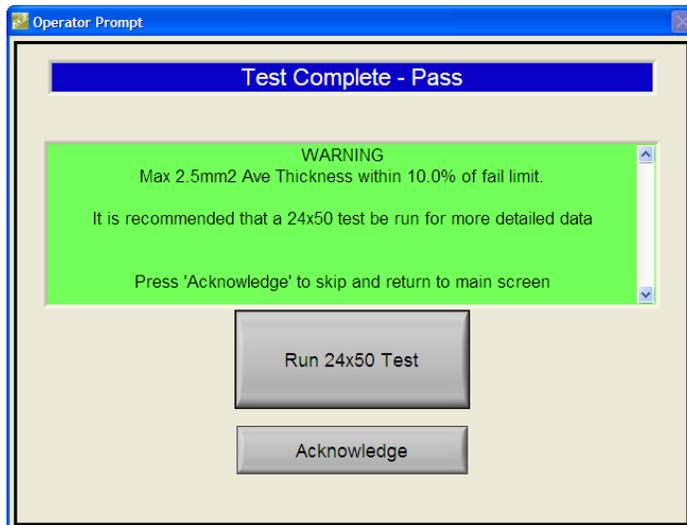

Figure 32 – 24x25 Warning Popup Display
- 24x25 quick test with '24x50 Test' recommendation (figure 32)